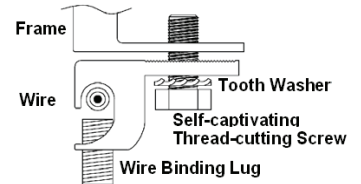

Figure 3 (IlSCO, GBL-4DBT)
(1) Grounding Using Existing Ground Hole (Figure 3,GBL-4DBT)